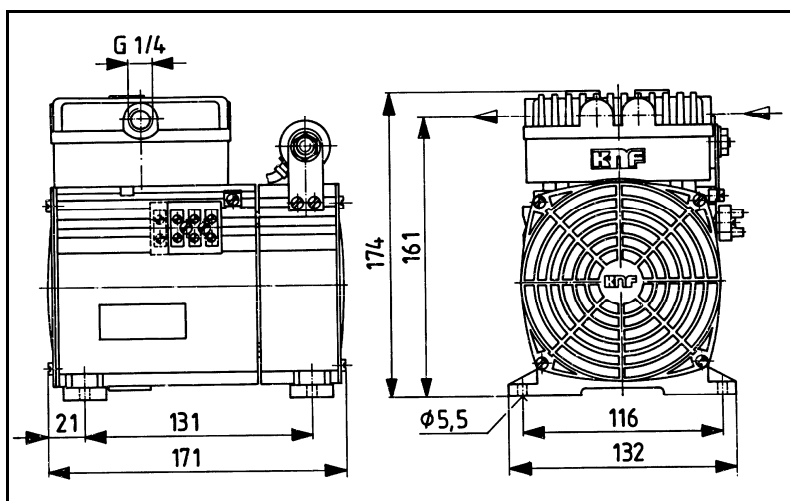
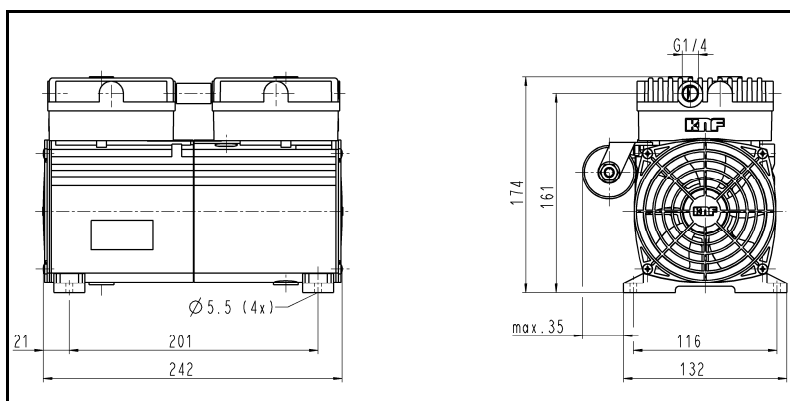

Fig. 4: Mounting dimensions NPK 050
Fig. 5: Mounting dimensions NPK 0100
- ➔ For the mounting dimensions see fig. 4 (NPK 050) or fig. 5 (NPK 0100).